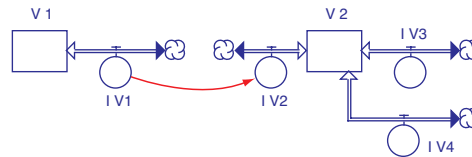

Figure 1.9: Representation of laws of balance in system dynamics diagrams. The thin arrow denotes the interaction rule (action and reaction).
33. What happens to the law of interaction formulated in Fig. 1.9 if the two tanks are treated as a single element?